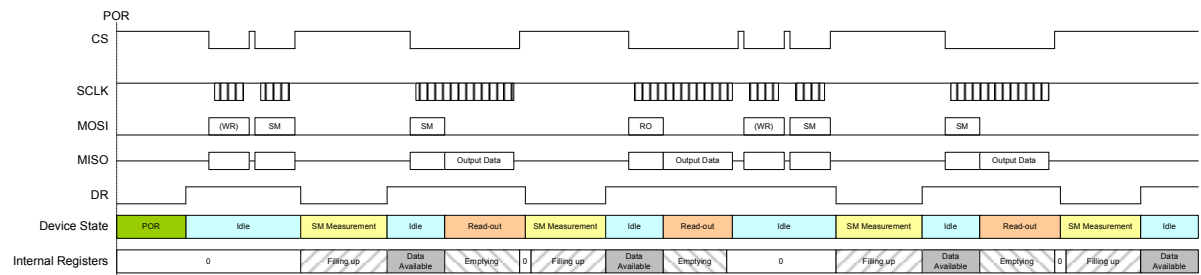

Figure 24: Global timing diagram with separate SM-RO and combined SM-RO together
**Figure 24** shows a timing diagram wherein separate SM-RO cycles are mixed with combined SM-RO cycles. After the Power-On-Reset phase, a SM measurement cycle is started. Once the *DR* pin is high, the data can be read out. A SM command with extra clocks is used to combine the read-out and the start of the next measurement cycle. With the extra clocks, the data of the internal registers is transferred to the *MISO* pin. When the *CS* pin goes high, the next measurement cycle (SM) will be started. Once the *DR* pin is high, a normal RO command is uploaded to bring the data to the *MISO* pin. If needed, the settings in the user registers can be changed with the WR command and optionally the RR command can be used to check if the right values were uploaded. A new measurement cycle can be started with e.g. a normal SM command. When the *DR* pin is high, the data can be transferred by uploading e.g. a SM command that combines the read-out and the start of a new measurement cycle.